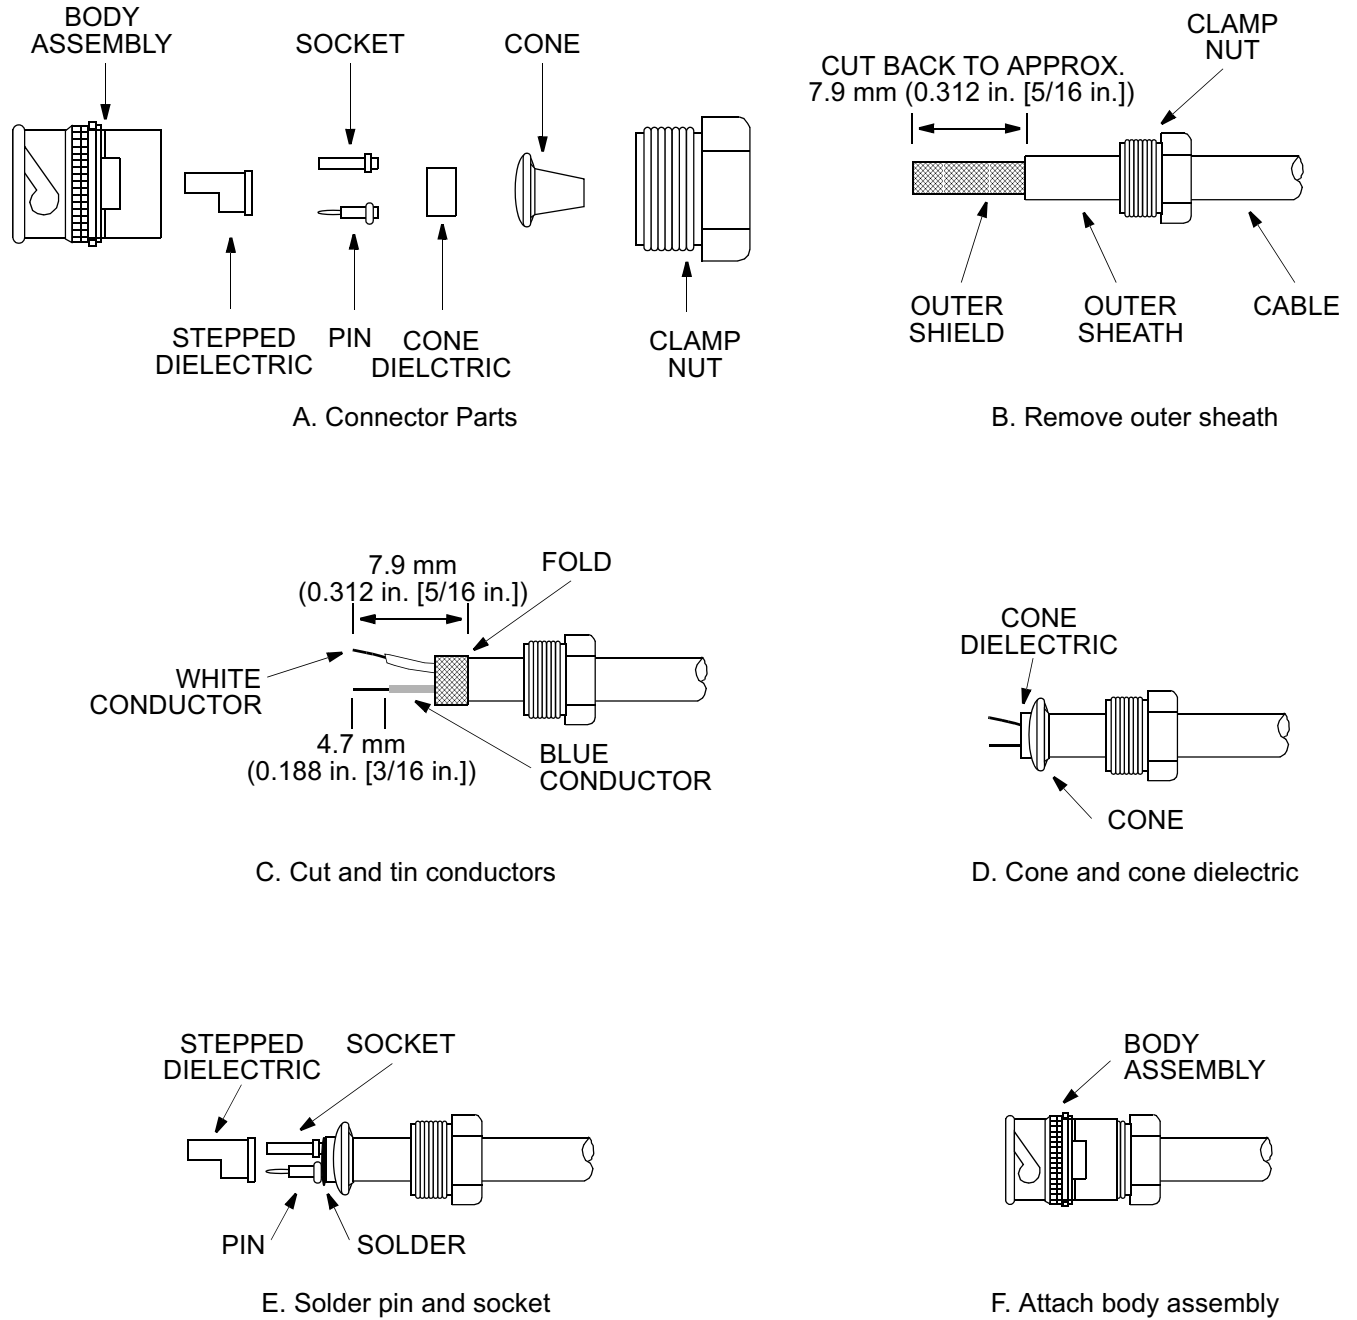

Figure 19. Twinax BNC Connector Assembly
39. If using Type 2 lightning protectors, ignore this step. If using Type 1 lightning protectors, use Step a through Step m, to attach twinax BNC connectors to the cables used to make the following connections (Figure 19):